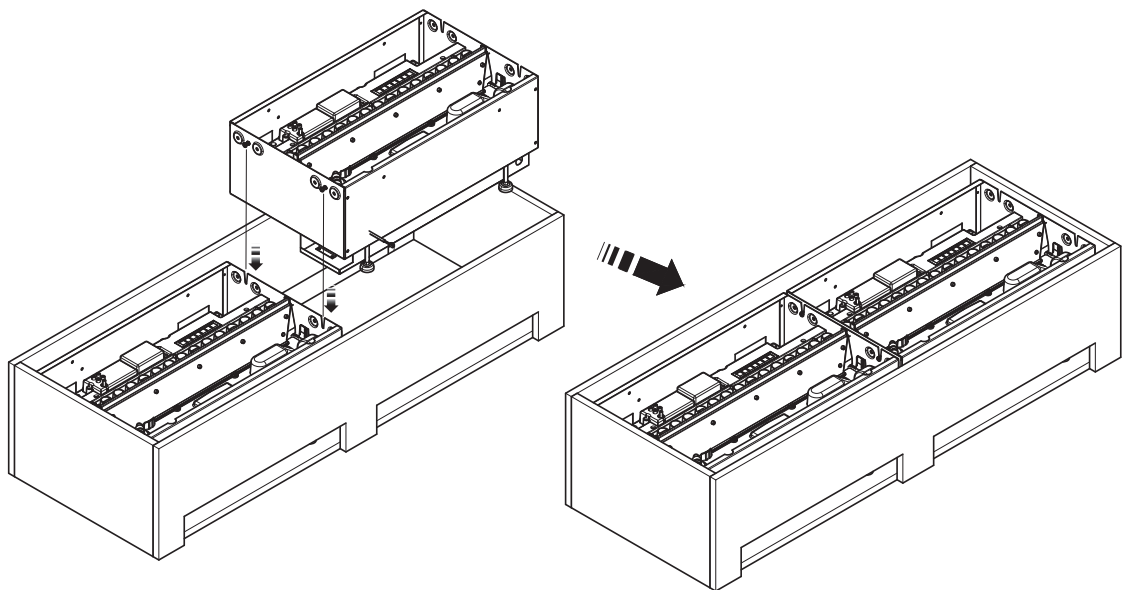

Fig. 19
2. Fit the second product beside the first product, ensuring the protruding screws of the second product engage with slots of the first product. (Fig 19)